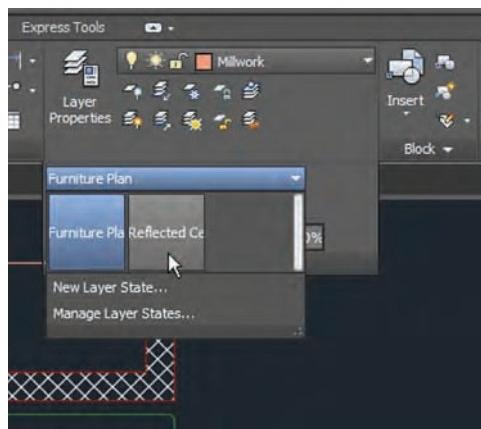

FIGURE 6.18 Accessing saved layer states from the drop-down in the Layers panel
7. Open the Layer State drop-down menu, and select Reflected Ceiling Plan (see Figure 6.18). All the layer states associated with the Reflected Ceiling Plan are immediately toggled.